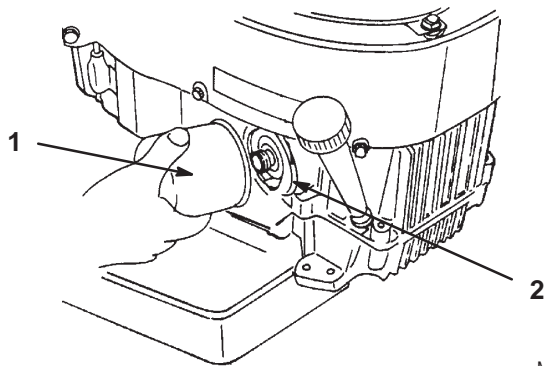

Figure 26
2. Remove the old filter (Fig. 26).
3. Apply a thin coat of new oil to the rubber gasket on the replacement filter (Fig. 26).
4. Install the replacement oil filter to the filter adapter. Turn the oil filter clockwise until the rubber gasket contacts the filter adapter, then tighten the filter an additional 3/4 turn (Fig. 26).